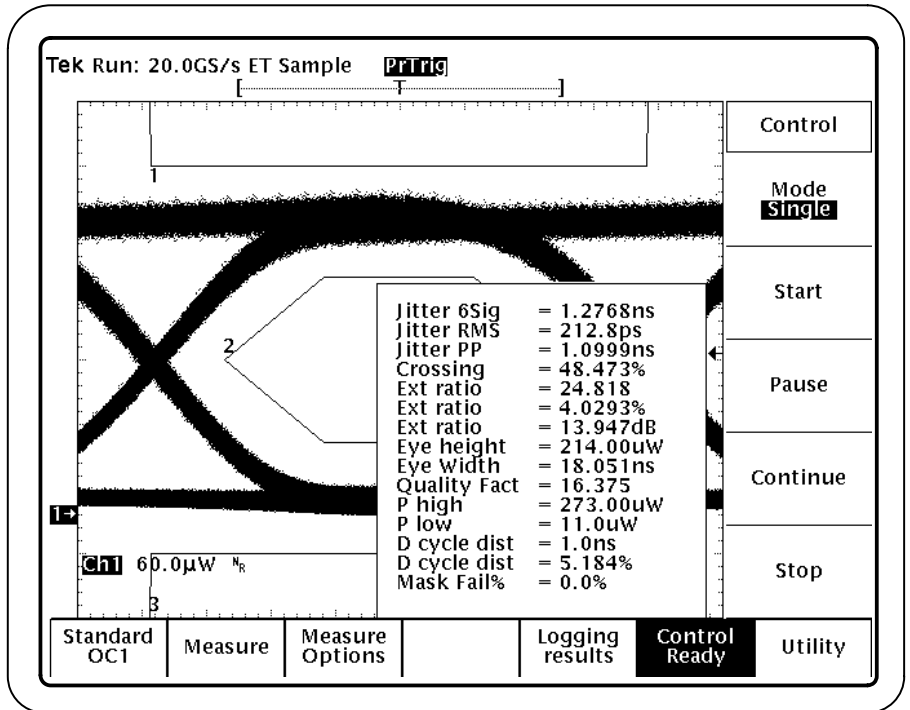

Figure 13: Results readout for all measurements
6. To take the measurement, press Control (main) → Start (side). Figure 13 shows the Results readout for all the measurements.